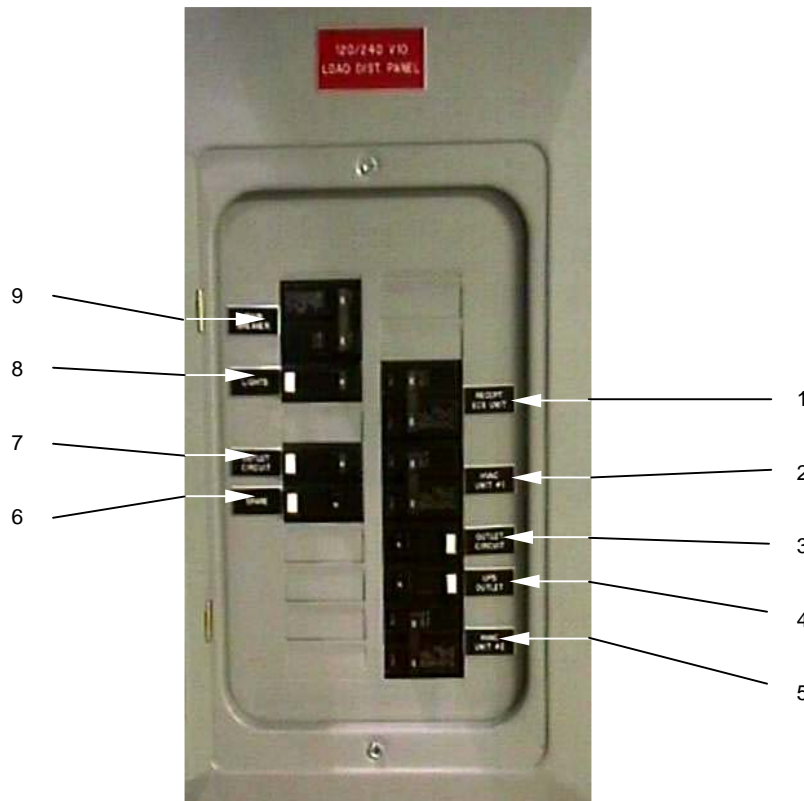

Figure 2-3. Power Distribution Panel (open)
**2-4.3 POWER DISTRIBUTION PANEL.** Breakers are contained in the power distribution panel (see Figure 2-3) to control power input to the components within the SNDLRCS van. Breakers are clearly marked as to their ON/OFF positions. Breakers trip to OFF when overloaded or a fault occurs. Both 120- and 208-volt power are available from the power distribution panel.
**2-4.3.2 Environmental Control System (ECS) Supply Breaker.** Figure 2-3, item 1 is a 20-amp, 220-volt breaker that supplies power to the ECS heat pump unit.
**2-4.3.3 Forward Heat and Ventilation Air Conditioning Breaker.** Figure 2-3, item 2 is a 20-amp, 220-volt breaker that supplies power to the forward air conditioning/heating unit.
**2-4.3.4 Outlet Breaker #1.** Figure 2-3, item 3 is a 15-amp, 110-volt, ground-fault interrupter (GFI-) protected breaker that supplies power to outlets within the SNDLRCS van.
**2-4.3.5 Uninterruptible Power Supply (UPS) Breaker.** Figure 2-3, item 4 is a 15-amp, 110-volt, GFI-protected breaker that supplies power to the UPS system and 24-volt dc transformer.
**2-4.3.6 After Heat and Ventilation Air Conditioning Breaker.** Figure 2-3, item 5 is a 20-amp, 220-volt breaker that supplies power to the after air conditioning/heating unit.
**2-4.3.7 Spare Breaker.** Figure 2-3, item 6 is a 15-amp, 110-volt, GFI-protected breaker. This breaker is an installed spare for future electrical system growth.
**2-4.3.8 Outlet Breaker #2.** Figure 2-3, item 7 is a 15-amp, 110-volt, GFI-protected breaker that supplies power to outlets within the SNDLRCS van.
**2-4.3.9 Lighting Breaker.** Figure 2-3, item 8 is a 15-amp, 110-volt, GFI-protected breaker that supplies power to lighting throughout the SNDLRCS van.
**2-4.3.10 Master Breaker.** Figure 2-3, item 9 is a 50-amp, 220-volt breaker that is the master input breaker to the power distribution panel.